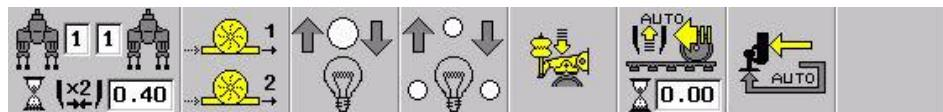

Figure 4-52
2. Scan the information or status boxes on the screen to see what parameters are set. See figure 4-52.